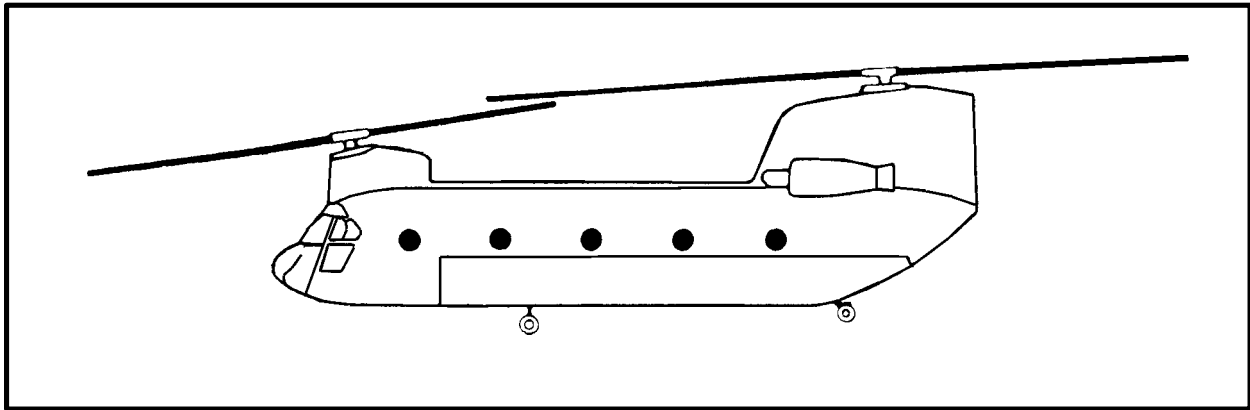

Figure 2-12. H-47 Chinook
e. **H-47.** The H-47 Chinook (Figure 2-12) is a twin engine, tandem rotor helicopter manufactured by the Boeing Vertol Company. The primary mission of the Chinook is to aerial deliver personnel, supplies, and equipment. The flight engineer lays on the floor and guides the pilot by giving him directions to help him position the aircraft directly over the load.